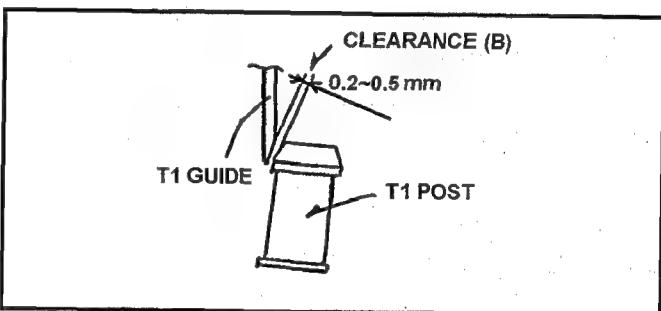

Fig. 10-8-2 Adjustment of T1 Guide
1. Observe the **clearance (B)** between T1 Guide and T1 post as shown in Figure 10-8-2. And make sure that it is within **0.2 to 0.5mm**.
2. If not, loosen the **2 screws (A)** and adjust the position of T1 Guide by moving to arrow direction ( $G \leftrightarrow G$ ) so that the **clearance (B)** is within specification. And tighten the **2 screws (A)**.